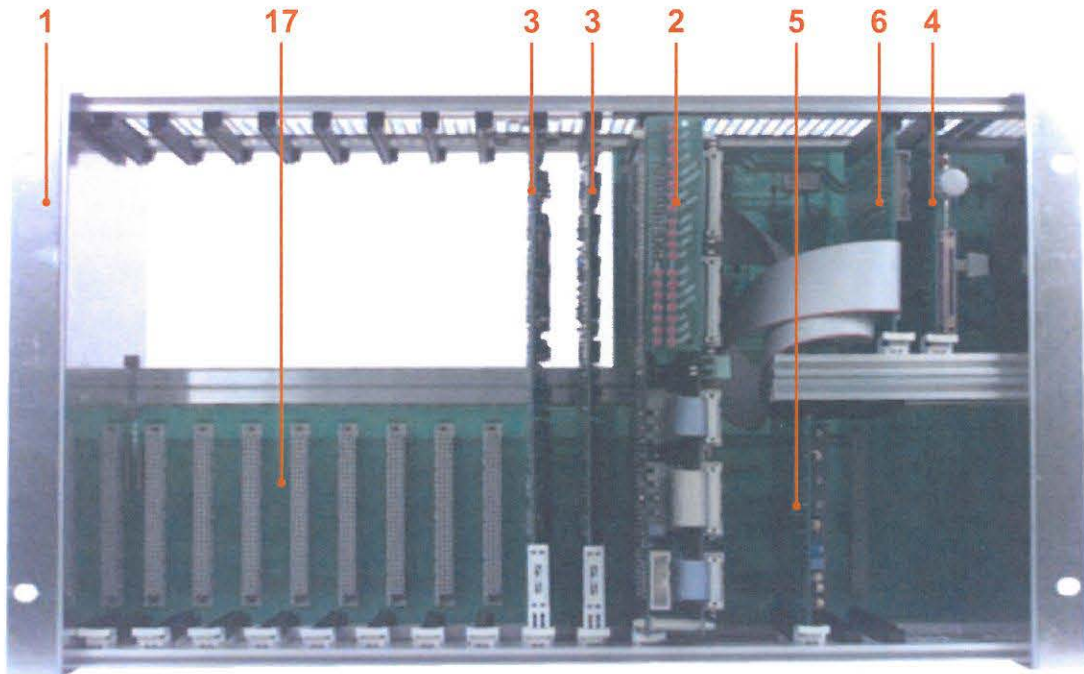
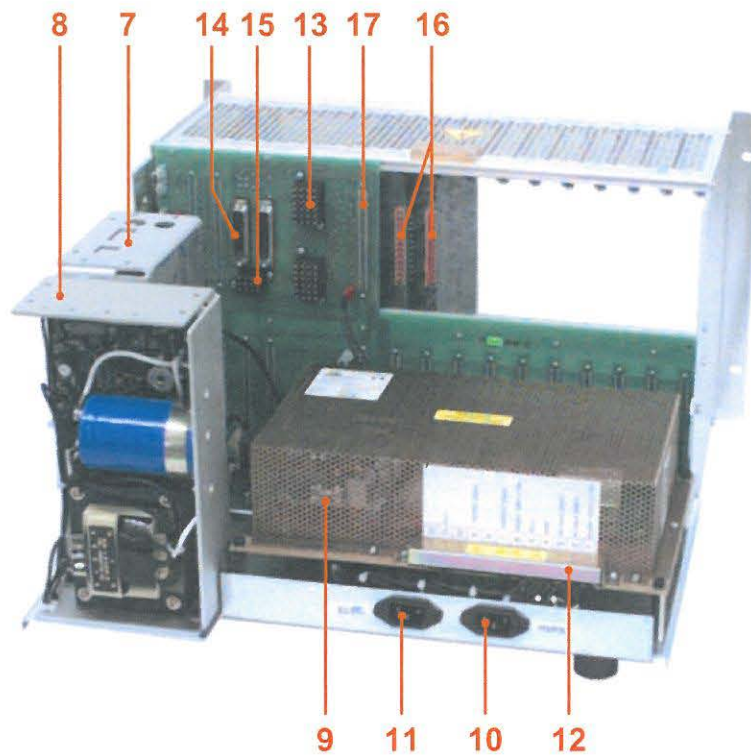

Figure 2.13
Figure 2.14
The figure 2.13 shows the front of the rack including the electronic boards, and the figure 2.14 shows an overall view (modules and connections).
Key to figures 2.13 and 2.14:
U : This thermocouple returns a proportional voltage of the pressure into the spectrometer to the vacuum and profile board (figure 2.13 pos. 4)
C : The pressure can be read on the control multimeter (figure 2.5 pos. 3), as long as the 6 positions switch of the vacuum and profile board (figure 2.13 pos. 4) is set on the position 2. The reading is however approximate and the circuit is designed to read intermediary vacuum pressure. Under a pressure of 5  $\mu\text{mHg}$  the reading is not anymore valid.
C : The pressure can be read on the control multimeter (figure 2.5 pos. 3), as long as the 6 positions switch of the vacuum and profile board (figure 2.13 pos. 4) is set on the position 2. The reading is however approximate and the circuit is designed to read intermediary vacuum pressure. Under a pressure of 5  $\mu$ mHg the reading is not anymore valid.